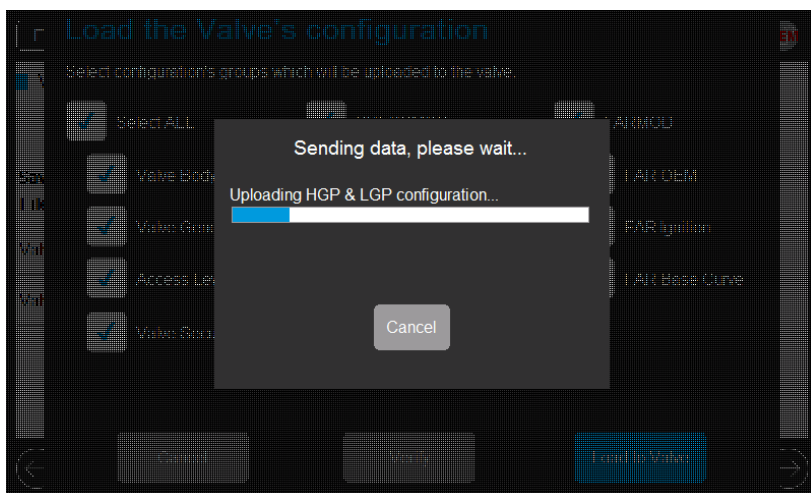

Fig. 106: Load valve configuration progress bar.
6. Select the 'Load to Valve' button. As the user interface is sending the selected configuration to the valve, the progress bar pops up to show download progress. Refer to Fig. 106.